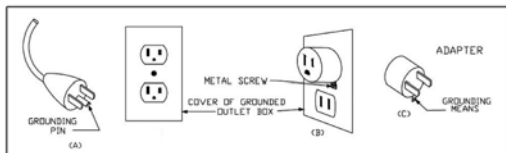

Figure 65.1
- ▶ This heater is for use on 120 volts. The cord has a plug as shown at A in Figure 65.1. An adapter as shown at C is available for connecting three-blade grounding-type plugs to two-slot receptacles. The green grounding lug extending from the adapter must be connected to a permanent ground such as a properly grounded outlet box. The adapter should not be used if a three-slot grounded receptacle is available.